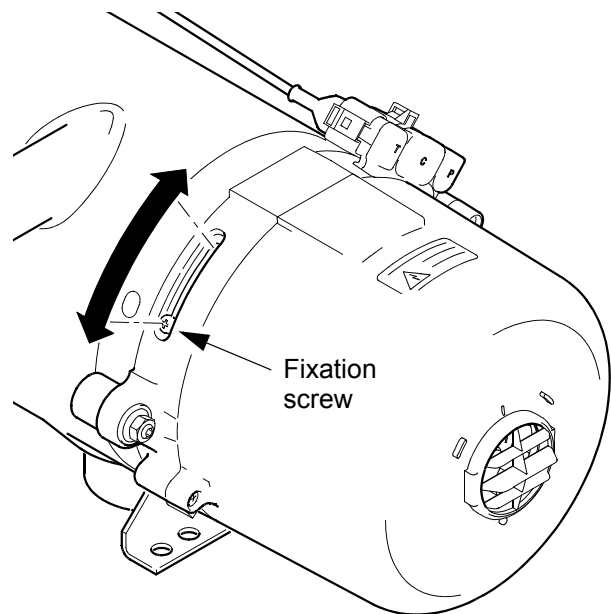

Fig. 701 Fixation screw for CO2 setting
4. Loosen the fixation screw (see Fig. 701) and rotate the adjustment ring with the fixation screw until the target value is reached.